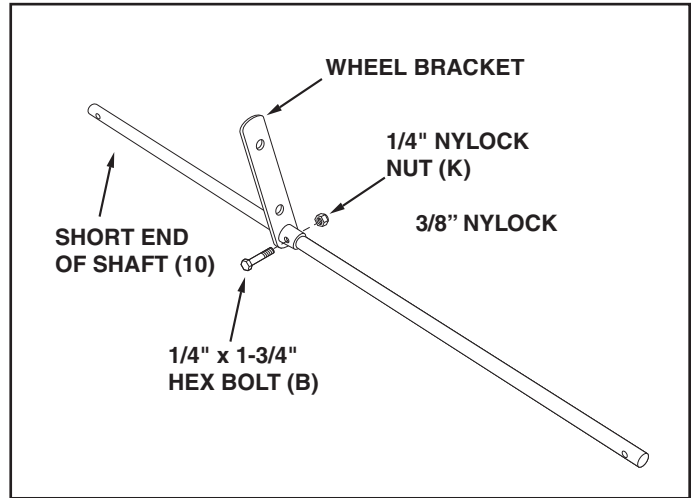

FIGURE 2
- Identify the short end of the shaft. Attach the wheel bracket to the hole in the middle of the shaft using a 1/4" x 1-3/4" hex bolt (B) and a 1/4" nylock nut (K). Tighten. See figure 2.